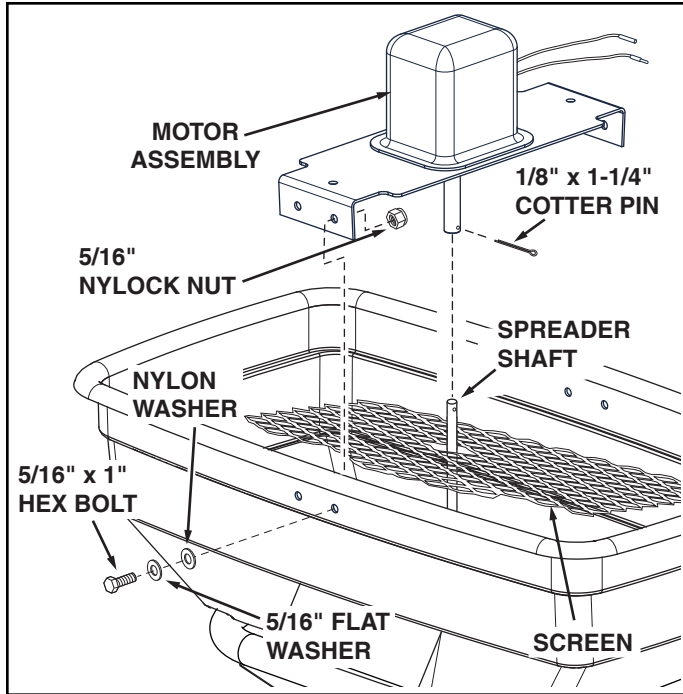

FIGURE 5
10. Place motor assembly down into hopper, inserting end of spreader shaft into impeller coupler. Secure it with a 1/8" x 1-1/4" cotter pin, spreading ends of pin around coupler. See figure 5.
11. Fasten motor mount bracket to hopper using four 5/16" x 1" hex bolts, 5/16" flat washers, nylon washers and 5/16" nylock nuts. See figure 5.